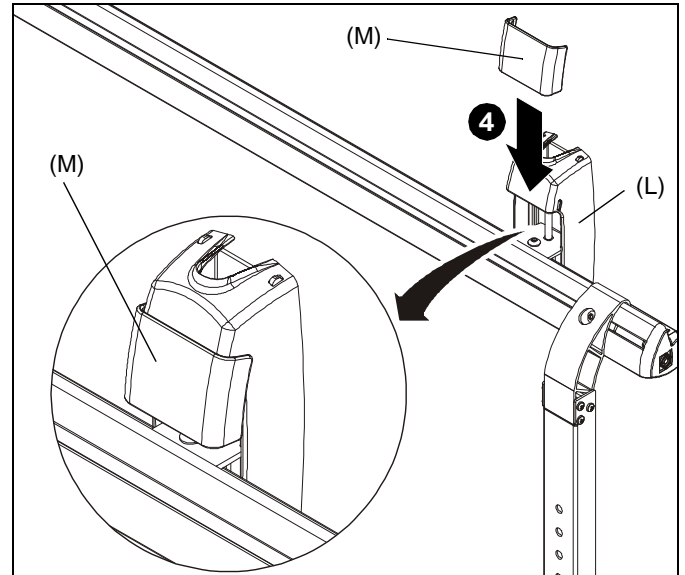

Figure 11
4. Slide the sliding cover (M) down over the wall bracket cover (L). (See Figure 11)